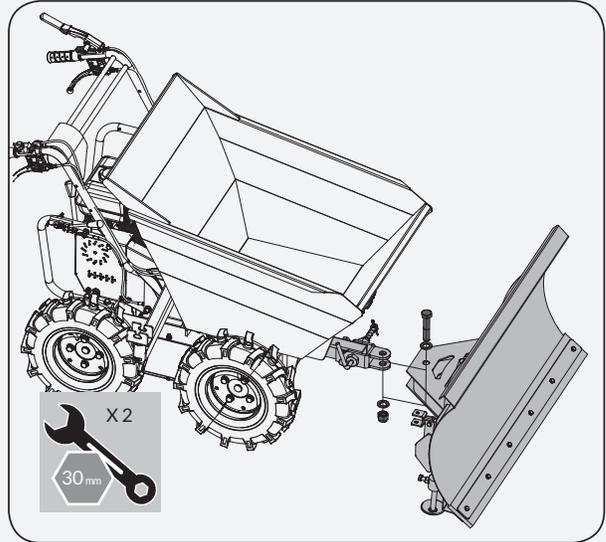

Figure 1c
4. Fix the blade assembly to the flange bracket with M20X100 bolt, washer and nut. Do not overtighten, allowing the blade to rotate freely in both directions. (See **Figure 1c**)